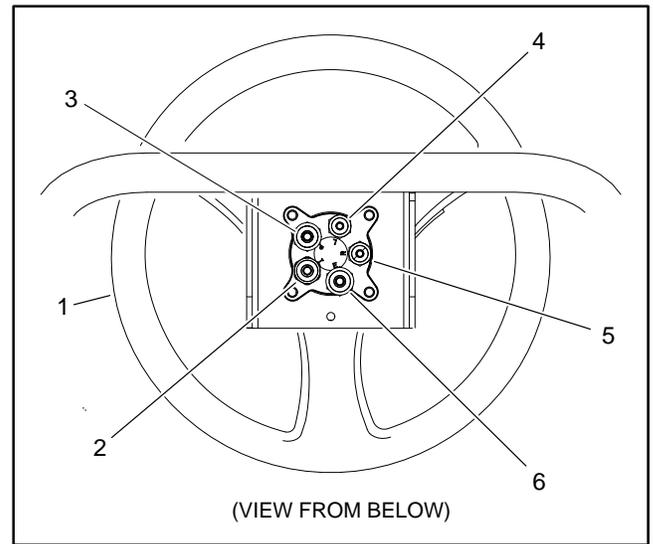

Figure 28
2. Remove cover (item 1) from steering wheel by carefully prying up on one of the cover spokes.
5. Remove three (3) screws and flat washers (item 13 & 14) that secure hood to floor plate.
6. Remove ten (10) panel fasteners securing hood to dash (item 6), machine frame, and center of dash to support tube. Remove hood and dash. If necessary, disconnect headlight wire harness connectors.
7. Remove cable ties and dust cover (item 9).
8. Label all hydraulic hoses for assembly purposes (Fig. 28). Clean hydraulic hose ends prior to disconnecting the hoses from the steering control valve.
10. Support steering control valve to prevent it from falling during removal. Loosen and remove four (4) cap screws (item 11) that secure steering column and steering control valve and remove steering control valve from machine.
1. Position steering control valve to frame. Secure steering column and control valve to frame with four (4) cap screws (item 11).
2. Remove caps and plugs from disconnected hoses and fittings. Using labels placed during removal, connect hydraulic hoses to steering control valve (Fig. 28). Tighten hose connections (see Hydraulic Hose and Tube Installation in this chapter).